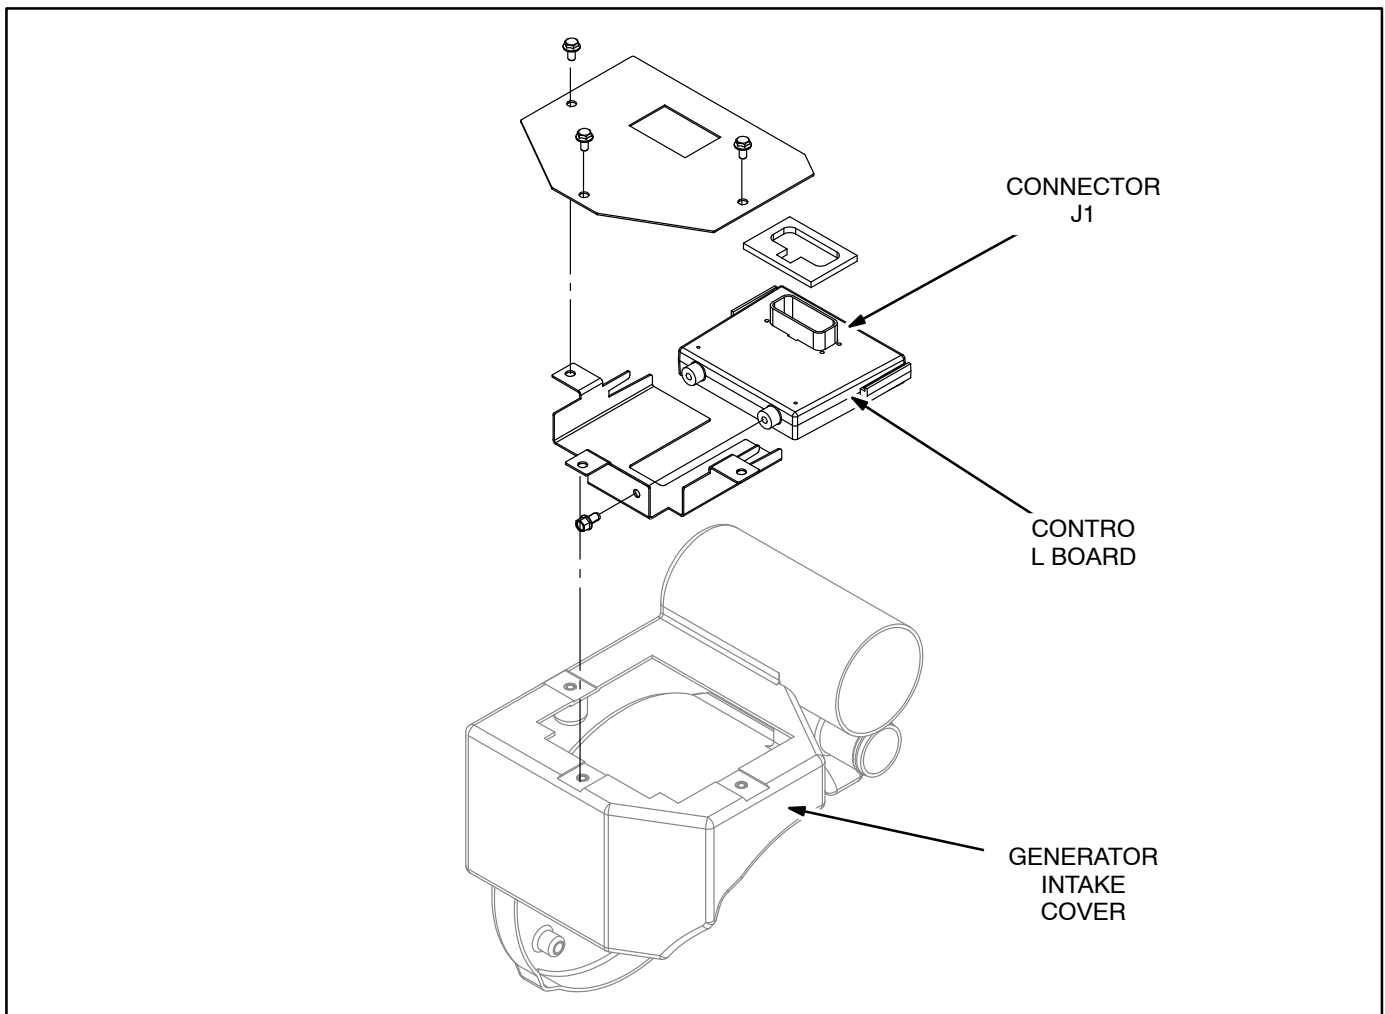

FIGURE. 11-1 CONTROL BOARD
**Location and Mounting:** Refer to Figure 11-1 for control board location and mounting and to Pages 16-3 and 16-4 for the control wiring schematic and harness drawings. The control board is